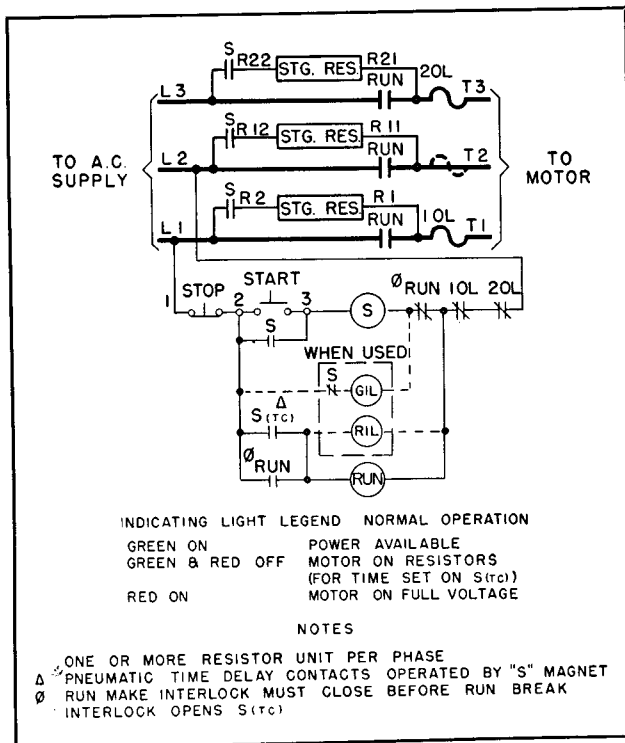

FIG. 1. Typical Elementary Diagram
The standard basic three-phase starter includes a three-pole starting contactor, a three-pole running contactor, suitable interposing relays to handle the contactor coil current when required, a set of overload relays, a timing relay, a resistor assembly, and necessary connection, wiring, and terminal details as required. Interposing relays are not supplied on the standard Sizes 1, 2, 3, and 4 starters. See Fig. 1 for typical elementary diagram.
Connections. See specific controller and motor diagrams for connection details. Typical elementary diagram is shown in Fig. 1. When making connections insert the bared cable or wire end into the connector so it is squeezed between the back of the tang and the collar when the fastener is tightened.
d. If starter fails to go through starting sequence completely, check interlock contacts, connections, and operation of devices. Check particularly, the controller diagram for any interlock sequence information such as note \oslash Fig. 1 and see that the proper sequence is being obtained.